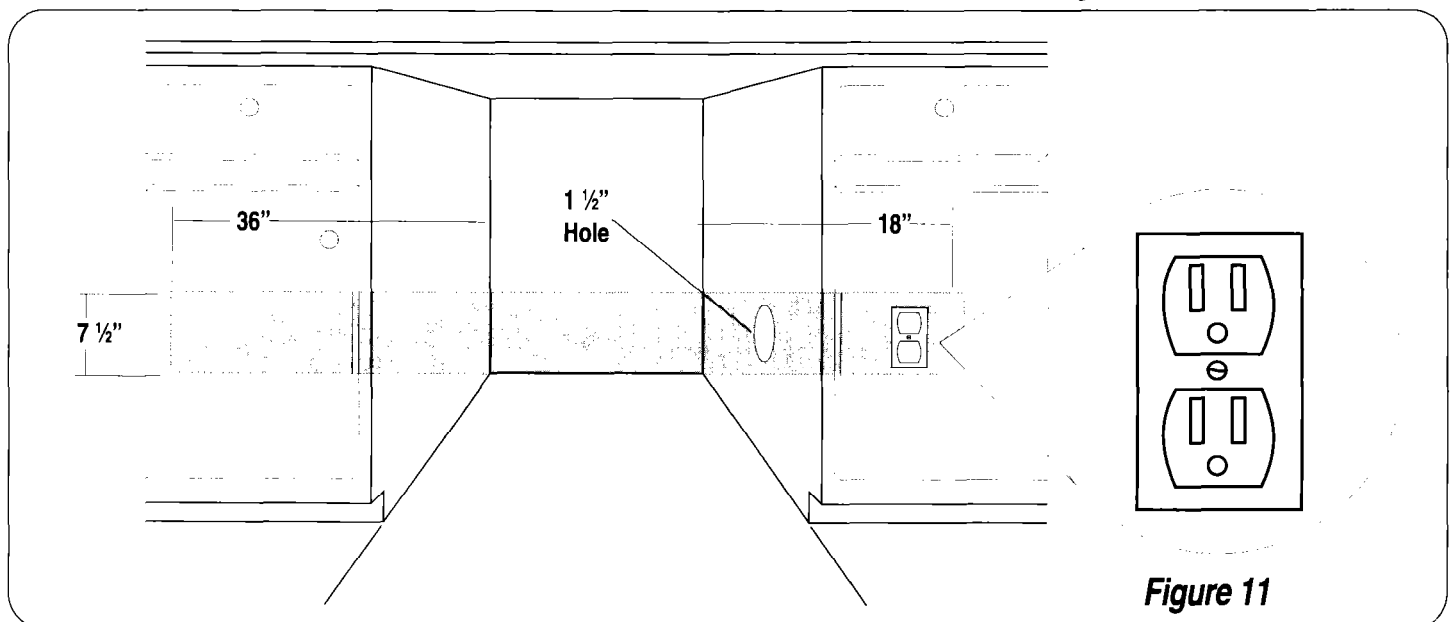

Figure 11
- Use the dimensions in Figure 11 to locate the receptacle within either dotted line area. Do not use an extension cord. Check both sides of the area before cutting to avoid interference.